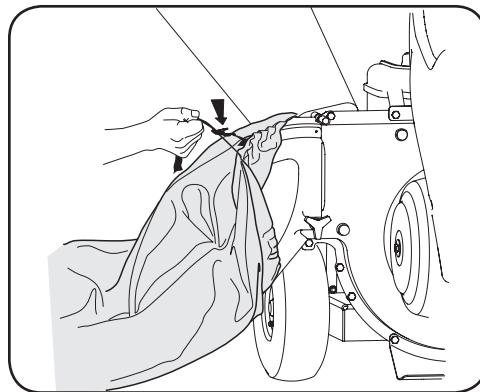

Figure 3-2
2. Squeeze the locking buckle to release the bag's drawstrap before loosening it from the chute deflector. See Figure 3-2.